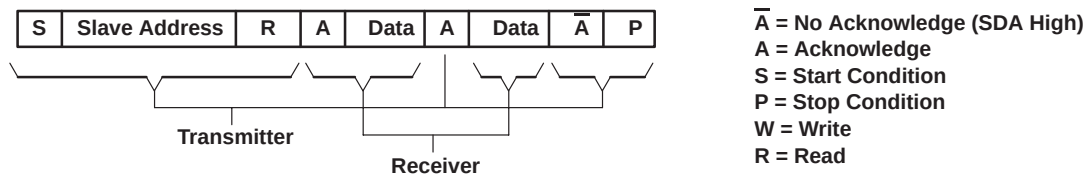
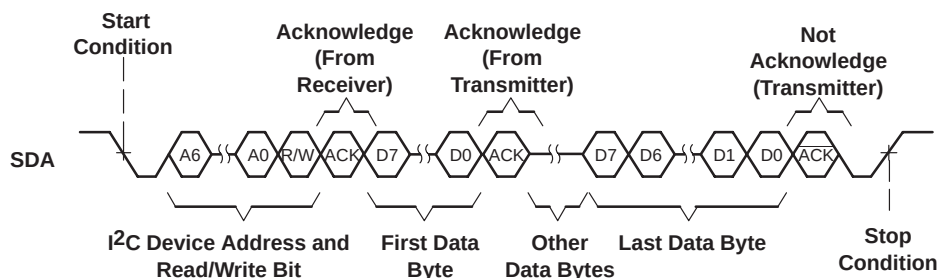

Figure 30. I²C Read Cycle
Figure 31. Multiple Byte Read Transfer
During a read cycle, the slave receiver will acknowledge the initial address byte if it decodes the address as its address. Following this initial acknowledge by the slave, the master device becomes a receiver and acknowledges data bytes sent by the slave. When the master has received all of the requested data bytes from the slave, the not acknowledge ($\bar{A}$) condition is initiated by the master by keeping the SDA signal high just before it asserts the stop (P) condition. This sequence terminates a read cycle as shown in Figure 30 and Figure 31.